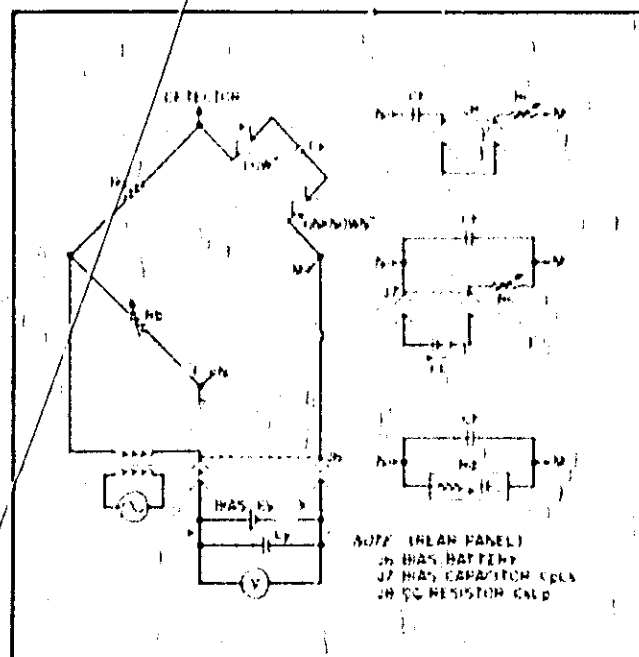

Figure 3-5. De Biased Capacitance Measurement
3-55. GENERAL. A dc bias voltage (6 vdc maximum) can be applied to capacitors such as electrolytic types during the C measurement. Figure 3-5 schematically illustrates the dc bias application. Operating procedure for dc-biased measurements is described below and pictorially shown in Figure 3-5. The following equipment will be required:
a. Connect the measurement setup as shown in Figure 3-5. All instrument cabinets except 4260A must be isolated from power line ground.